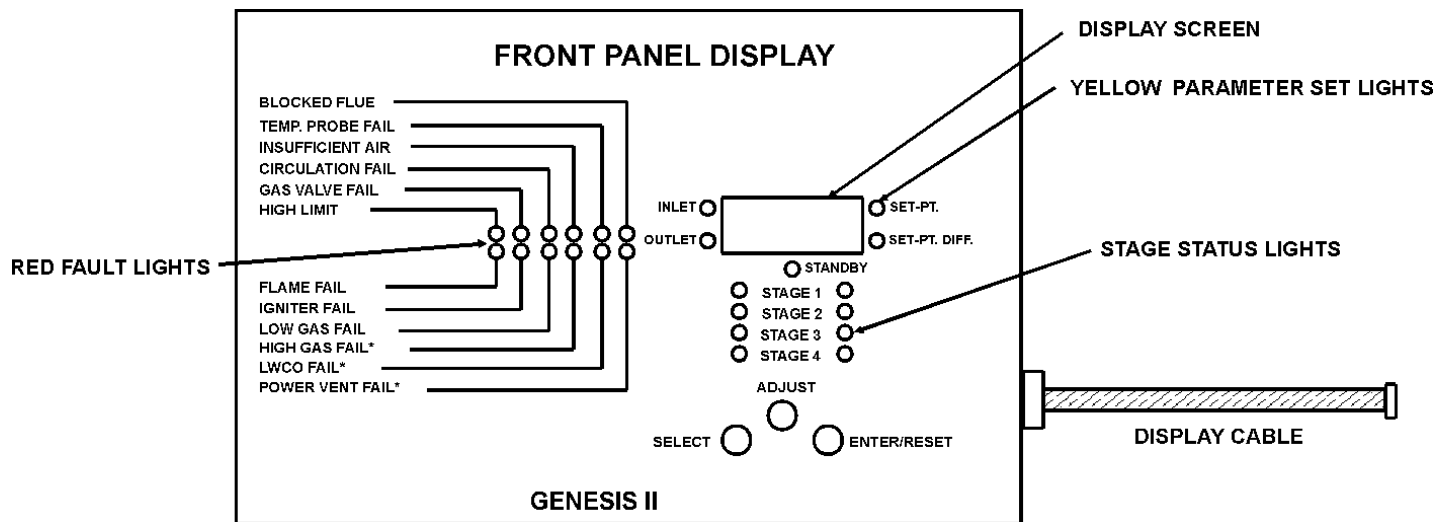

Figure 16. Display Board
When power is applied to the Control System, the Display Board will initially run through a self-diagnostic test, and then display the inlet temperature. To display a specific setting or temperature, press the SELECT push-button until the appropriate LED is illuminated (see Figure 16). After 5 seconds, the Display Board will automatically revert to displaying the Inlet temperature. Pressing the ENTER/RESET push-button will hold the display in the indicated mode until the SELECT push-button is pressed.
Green LEDs indicate when a given stage has sensed flame and is in the heating state. They also are used to indicate when the Set-Point differential for a given stage is being viewed or adjusted. (See Figure 16.)
The Red LEDs are illuminated to show faults and help in trouble shooting. There are three faults (High Gas Fail, LWCO and Power Vent Fail) listed as "Optional" which are only functional when the particular "Optional" equipment is included with the boiler. The red stage LEDs indicate on which stage a given fault has occurred. (See Figure 16.)
The five yellow parameter set lights allow the user to view system set points and options. In conjunction with the four green stage LEDs, the user can monitor and change settings on the various stages. (See Figure 16.)
1. Press the SELECT push-button on the display board until both the Set-Pt LED and Outlet Water Temperature LED (see Figure 16) are illuminated.
1. Press the SELECT push-button on the display board until both the Set-Pt LED and Inlet Water Temperature LED (see Figure 16) are illuminated.
1. Press the SELECT push-button on the display board until both the Set-Pt Diff. and green Stage One LED (see Figure 16) are illuminated.
1. Press the SELECT push-button on the display board until the LED display reads "OP" (Options). See Figure 16.
6. The display will automatically return to illustrating the controlling probe temperature after five (5) seconds.
5. The display will automatically resort to illustrating the controlling probe temperature after five (5) seconds.